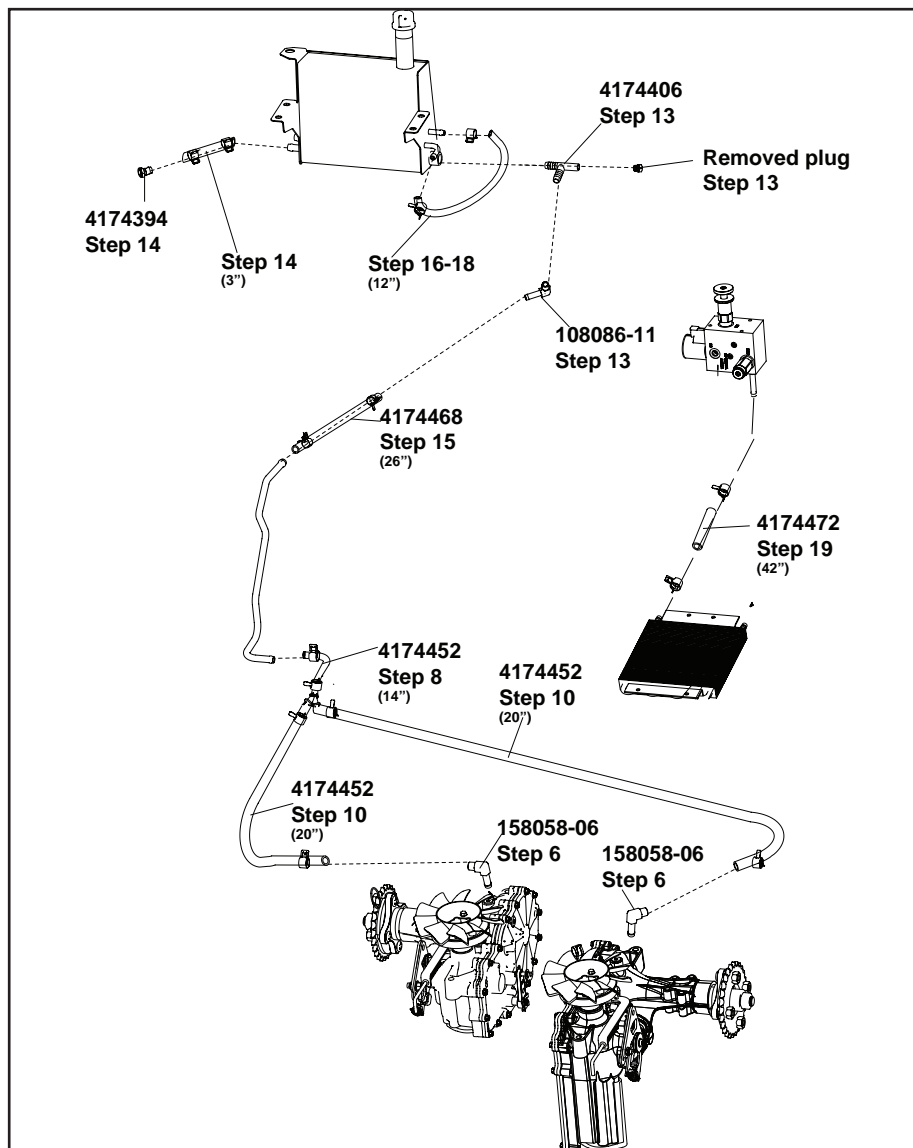

**FIGURE 15**
18. Cut this hose to 12". Discard the cut off. Move the clamp onto the 12" remainder and loop it and connect it to the open fitting on the left side of the reservoir. **Figure 15**